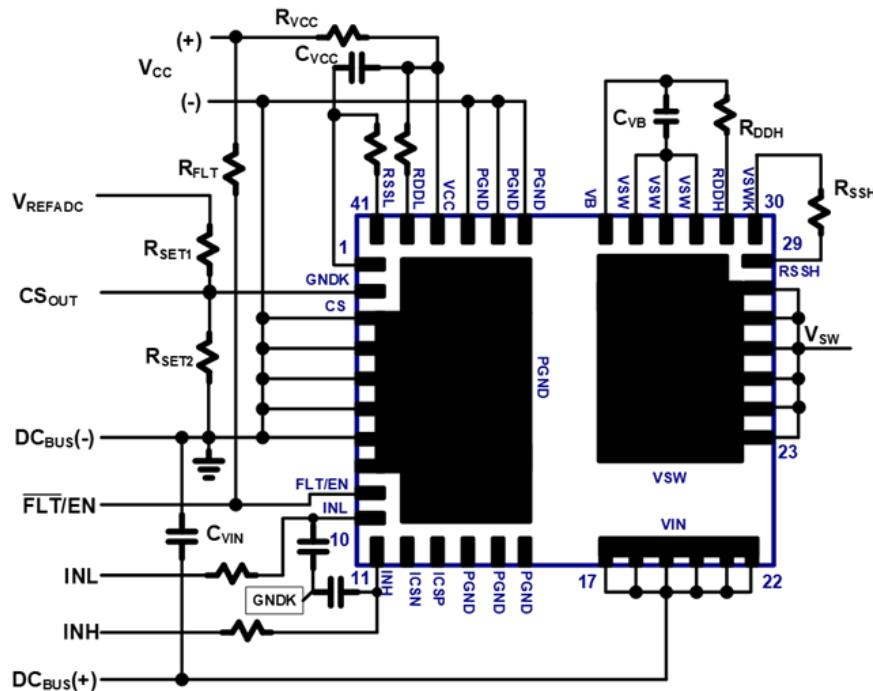

Fig. 23. IC connection diagram
The typical connection diagram for this GaN Half-Bridge IC is shown in Fig. 23. The IC pins include the drain of the high-side GaN power FET (V_{IN}), the half-bridge mid-point switched node (V_{SW}), the source of the low-side GaN power FET and IC GND (P_{GND}), low-side IC supply (V_{CC}), low-side turn-on dV/dt control (R_{DDL}), low-side turn-off dV/dt control (R_{SSL}), low-side referenced PWM inputs (IN_L , IN_H), low-side current sensing output (CS), FLT/EN pin for enabling the device and internal fault detection, high-side supply (V_B), high-side turn-on dV/dt control (R_{DDH}), high-side turn-off dV/dt control (R_{SSH}). The external low-side components around the IC include V_{CC} supply capacitor (C_{VCC}) connected between V_{CC} pin and P_{GND} , turn-on dV/dt set resistor (R_{DDL}) connected between V_{CC} pin and R_{DDL} pin, turn-off dV/dt set resistor (R_{SSL}) connected between the R_{SSL} pin and the $GNDK$ pin, current sense amplitude set resistors ($R_{SET1/2}$) connected between CS pin, V_{REFADC} and P_{GND} , and the FLT/EN pull-up resistor (R_{FLT}) connected to V_{CC} for enabling the device and for internal fault detection. The external high-side components around the IC include V_B supply capacitor (C_{VB}) connected between V_B pin and V_{SW} , V_{DDH} supply capacitor (C_{VDDH}) connected between V_{DDH} pin and V_{SW} , turn-on dV/dt set resistor (R_{DDH}) connected between V_B pin and R_{DDH} pin, turn-off dV/dt set resistor (R_{SSH}) connected between the R_{SSH} pin and the V_{SWK} pin. The high side V_B bypass capacitor must be chosen carefully to accommodate various system considerations such as high side wake up time and high side hold up time.